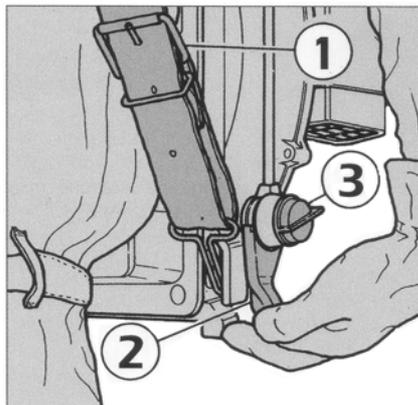

FIG. 9
- 6) Regulate the number of revs by turning the throttle (2 - Fig. 9).
- 2) Turn the switch (3 - Fig. 9) to ON.
- 3) Turn the throttle lever (2 - Fig. 9) about half way.
- 5) Regulate the number of revs by turning the throttle (2 - Fig. 9).
ATTENTION: To stop the motor in an emergency, turn the switch (3 - Fig. 9) to OFF
- 1) Ensure that the switch (3 - Fig. 9) is in ON position.
- 4) Turn the throttle (2 - Fig. 9) to maximum.